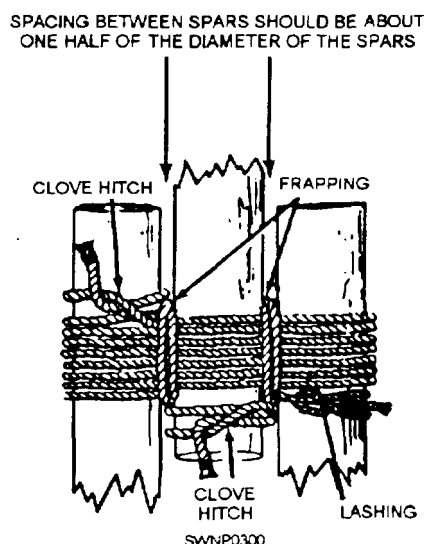

Figure 6-53.—Lashing for a tripod.
c. With a 1-inch rope, make a clove hitch around one of the outside masts about 4 inches above the lashing mark, and take eight turns of the line around the three masts (fig. 6-53). Be sure to maintain the space between the masts while making the turns.